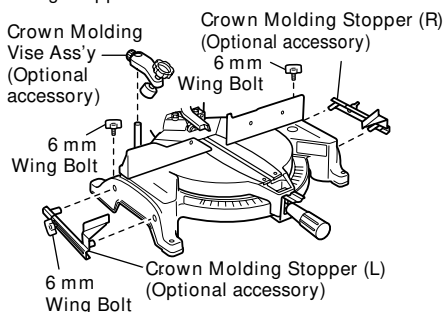

Fig. 20
- (1) Crown molding Stopper (L) and (R) (optional accessories) allow easier cuts of crown molding without tilting the saw blade. Install them in the base both-sides side to be shown in **Fig. 20**. After inserting tighten the 6 mm knob bolts to secure the Crown molding Stoppers.